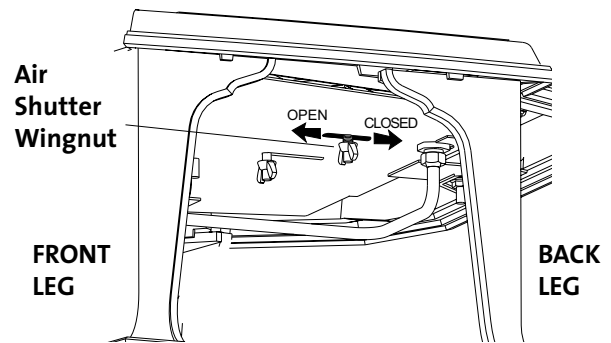

Figure 21. Locate and remove the Air Shutter wingnut from under the right side of the stove.
2. Remove the stove Top Plate (41).
5. Lift out the Burner Skirt (33). Tilt the skirt at an angle to clear the firebox sides and front.
6. Reach under the stove and remove the Air Shutter wingnut from its stud. As you face the right side, it is the one closest to you. See fig. 21.
You will need to adjust the shutter to the position that supplies the correct amount of air mixture to achieve the best flame picture with your particular installation. Start with the shutter stem at the midway position in the slot in the bottom of the stove. See fig. 21. Pushing the stem back will restrict air, while pushing it forward will open the shutter. Too much air will produce a lighter flame, while too little will promote long, dark flames and may promote sooting. Make adjustments in small increments. With some experimentation, you will find the shutter position that works best for your installation.